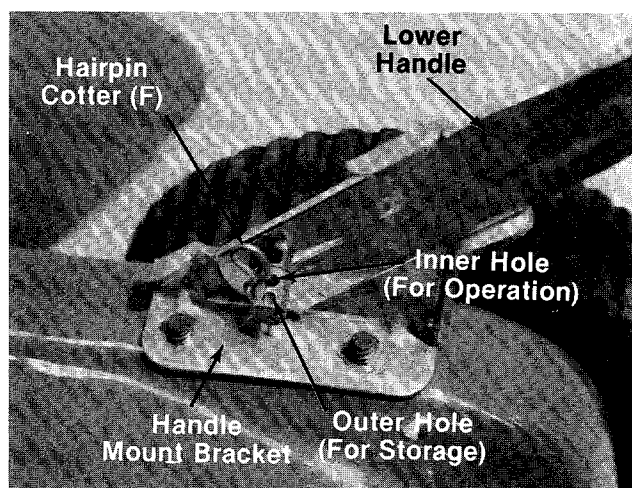

FIGURE 2.
- A (2) Hand Knobs
- B (2) Curved Carriage Bolts 5/16-18 x 1.75" Long
- ← C (2) Cable Ties
- D (1) Hex Bolt 1/4-20 x 1.50" Long
- E (1) Hex Center Lock Nut 1/4-20 Thd.
- F (2) Hairpin Cotter
- G (2) Ignition Keys (296 only) (Not Shown)
- H (1) Battery Charger (296 only) (Not Shown)
3. Place lower handle in position over weld pins in handle mount brackets on deck. Secure by placing two hairpin cotters (F) in inner hole on weld pins. See figure 2.